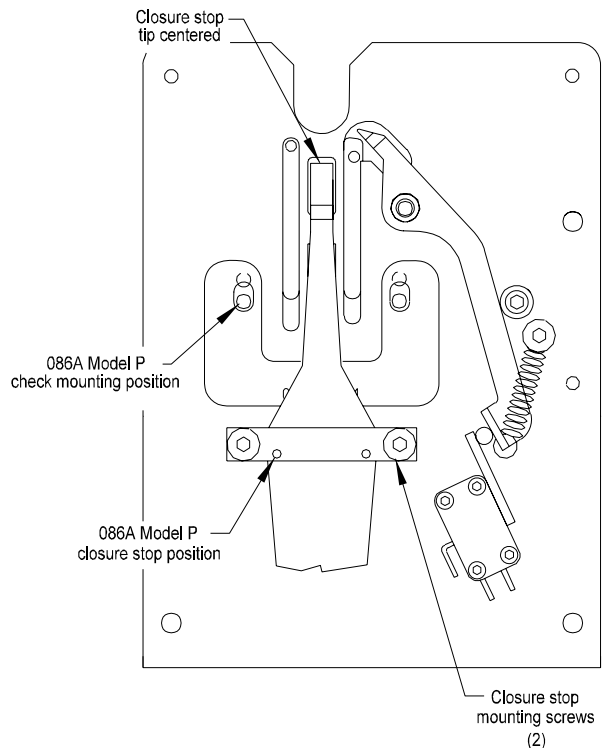

Figure 3.3
Refer to Figure 3.3 to further understand the check mounting position. For this adjustment the closure track must be removed from the closer.
1. The stop mount is mounted as shown (Figure 3.3).